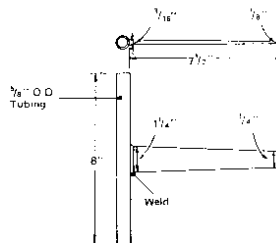

Figure 7 Coil Spacing Tool
- Space the coil tubes evenly throughout the Heater, with each tube space at least 15mm ($1/2$ ") wide. It is especially important that no tubes rest on any coil unions. A spacing tool may be made up similar to that shown on Fig. 7. Insert the tool flat between the coil tubes and twist the tool until the desired spacing is obtained.